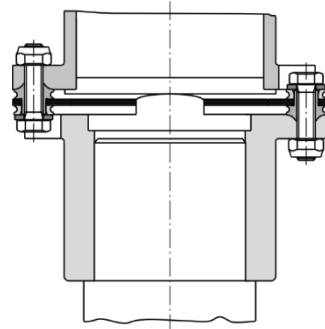

Fig. 4
ROBA®-DS couplings are designed for horizontal installation. In case of vertical or inclined installation, on long sleeves (sleeves S/CRD) the sleeve's own weight must be supported with a vertical support (Fig. 4). This vertical support including both centerings in the hub and in the sleeve is produced at the place of manufacture.
- ☐ For axial securement, please provide an additional adjusting screw (ISO 4029 - 45H) as an alternative to a press cover (see Figs. 4 and 5).